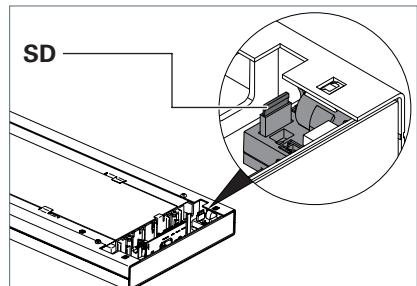

Fig. 6: Inserting the SD card.
- Insert the **SD** memory card into the slot of the TIME module, see Fig. 6.